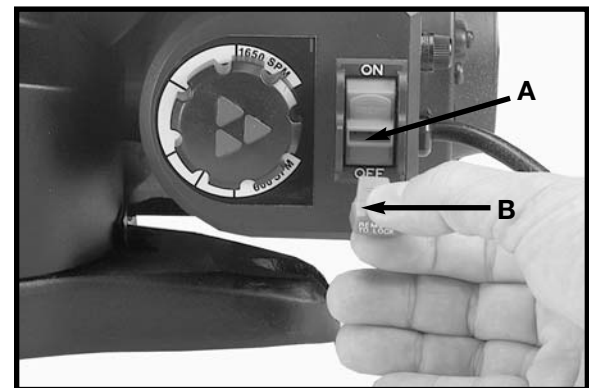

Fig. 6
IMPORTANT: When the tool is not in use, the switch should be locked in the "OFF" position. Grasp the switch toggle (B) Fig. 6, and pull it out as shown. With the switch toggle (B) removed, the switch, (A) Fig. 6, will not operate.